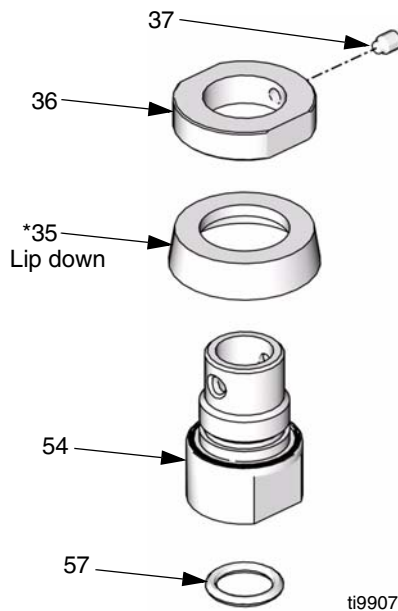

FIG. 22
- Loosen set screw (37) from collar (36). Remove collar from piston housing (54). Remove u-cup (35*). Remove o-ring (57) from ID of piston housing. Inspect all parts for damage. See FIG. 22.